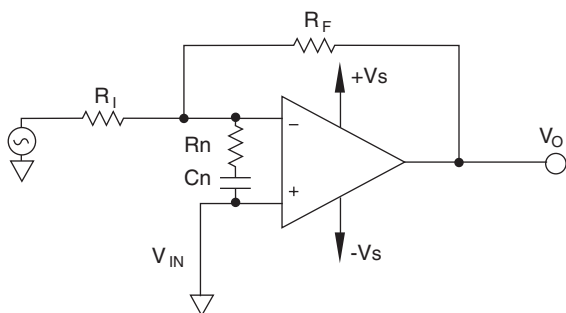

FIGURE 24. INPUT R-C NETWORK COMPENSATION
Solution: Raise gain or use input R–C compensation network. See Figure 24.
Solution: Increase C_c or increase gain and/or use input R–C compensation network. See Figure 24.
- 5) Increase AC gain only with noise gain compensation as shown in Figure 24. This technique works well with inverting circuits but is not recommended for non-inverting circuits.